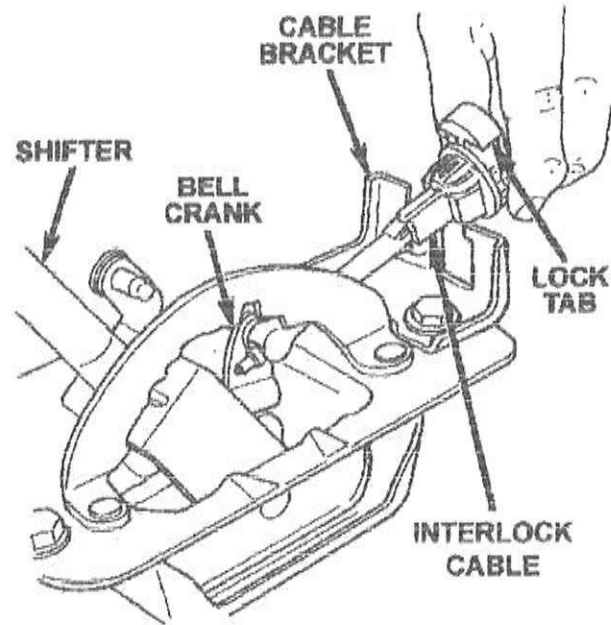

Figure 16
19. Disconnect the ignition interlock cable from the floor shifter bellcrank and shifter bracket (Figure 16).
24. Connect the cable to the floor shifter bracket and shifter (Figure 16).